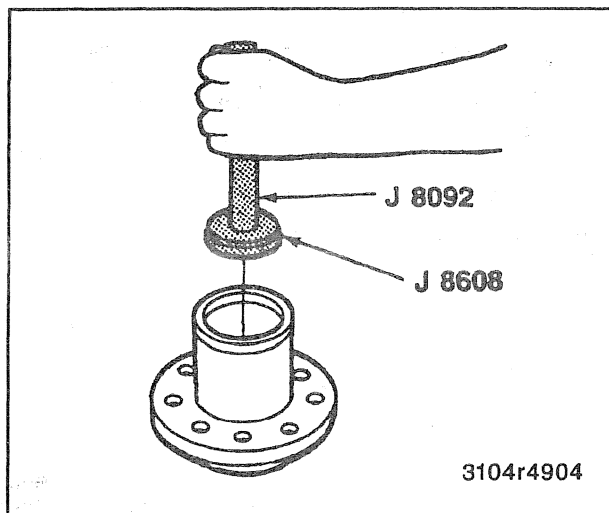

Figure 30—Installing Outer Bearing Cup
- Drive the cup into the hub using J 8092 and J 8608 (figure 30). Drive the cup beyond the retaining ring groove.